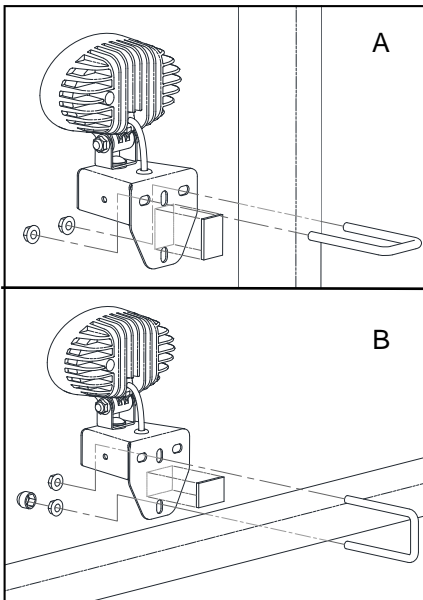

Fig. 1 (rectangular / square bar)
- NOTE: For mounting to square or rectangular tubing, apply the supplied 1/8" x 1" foam tape per Fig. 1.